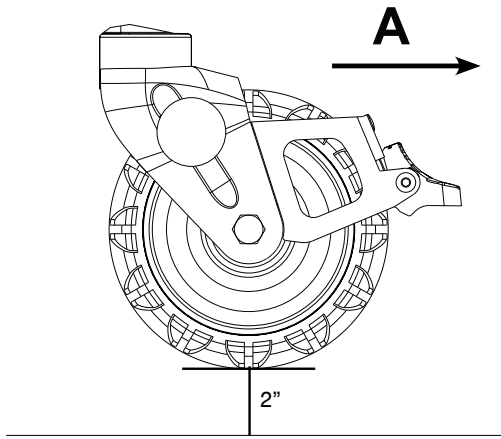

Figure 6 – Foot end cot wheel clearance
14. Using a tape measure, measure the distance from the bottom of the foot end cot wheel to the floor. The cot wheel should face the back of the vehicle patient compartment (A) (Figure 6). Make sure that the distance between the bottom of the foot end cot wheel to the floor is 2”.